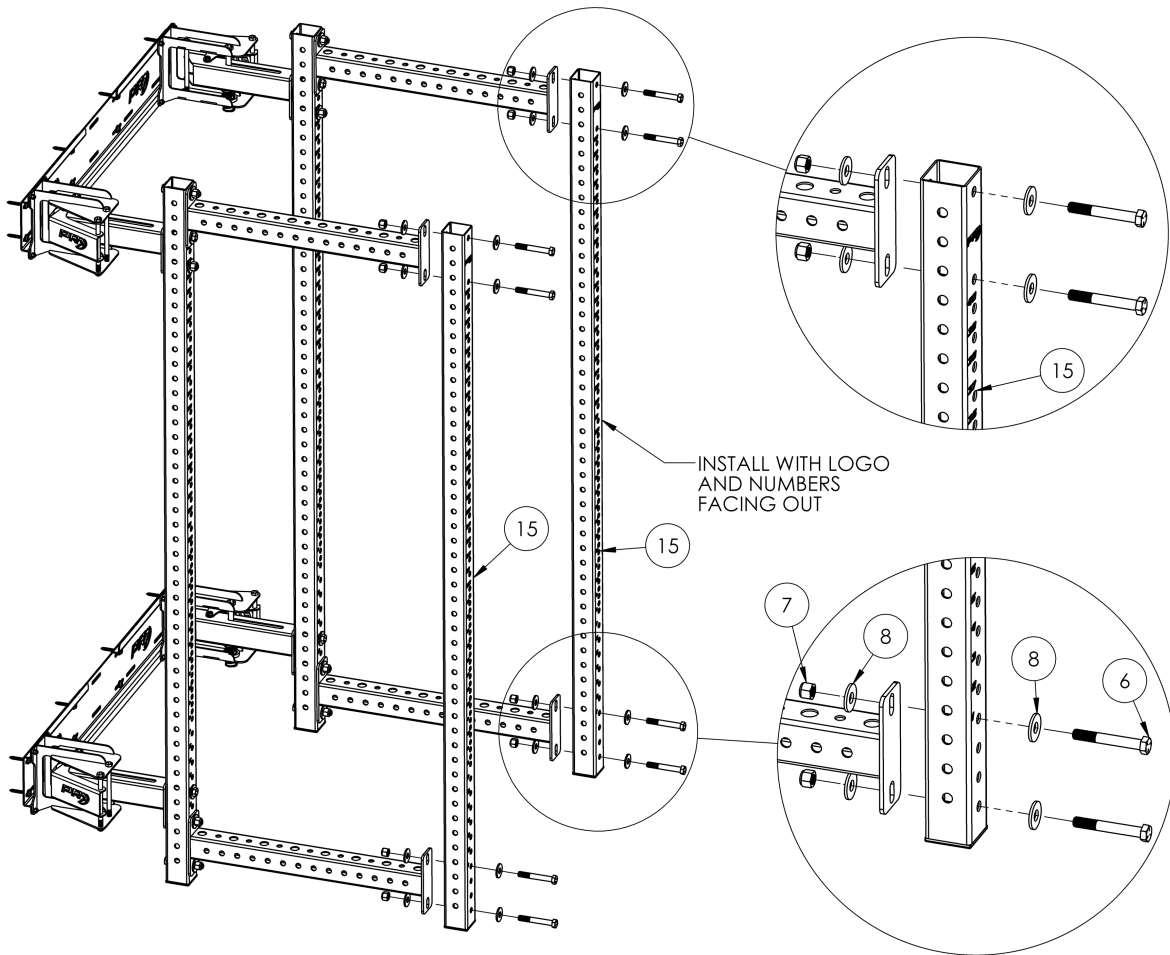

Figure 6: Attaching the second set of uprights
1. With the help of another person, attach the remaining two front uprights (15) (**Figure 6**).
2. For each upright, install two 5/8" x 4 1/2" hex bolts (6), four 5/8" flat washers (8), and two 5/8" locknuts (7) through each crossmember.